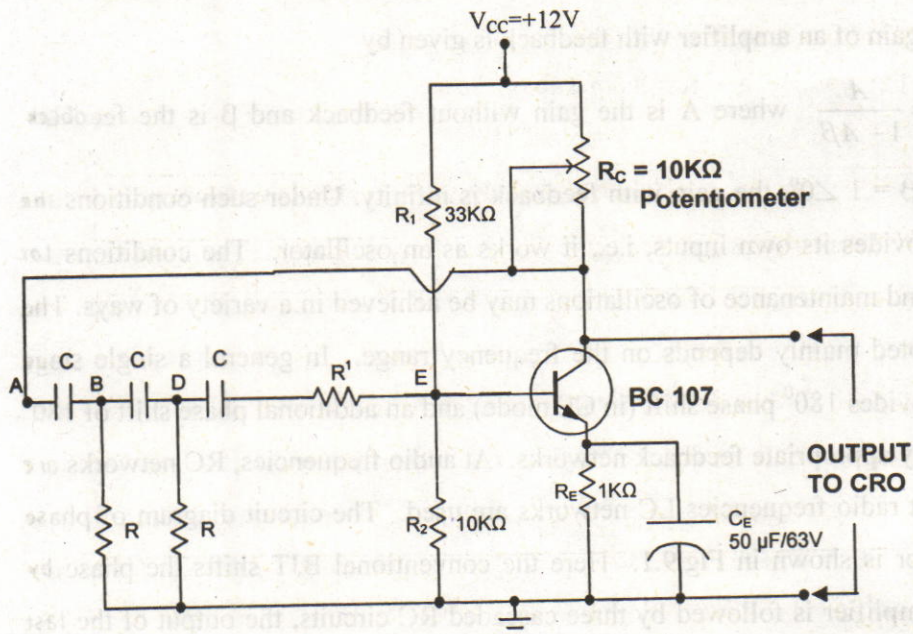

Fig.9.1
factor. If $A\beta = 1 \angle 0^\circ$, the gain with feedback is infinity. Under such conditions the amplifier provides its own inputs, i.e., it works as an oscillator. The conditions for production and maintenance of oscillations may be achieved in a variety of ways. The method adopted mainly depends on the frequency range. In general a single stage amplifier provides 180° phase shift (in CE mode) and an additional phase shift of 180° is provided by appropriate feedback networks. At audio frequencies, RC networks are used while at radio frequencies LC networks are used. The circuit diagram of phase shift oscillator is shown in Fig.9.1. Here the conventional BJT shifts the phase by 180° . The amplifier is followed by three cascaded RC circuits, the output of the last RC combination being fed back to the base. The R value used in the RC sections must be same. Likewise the Capacitors also must have same value. So that at a particular frequency each section contributes a phase shift of 60 degrees and the total phase shift introduced by 3 segments will be will be 180 degrees. At this frequency, the total phase shift is 360° or 0° leading between input and feedback signal and the system oscillates, provided the amplifier gain makes up for the attenuation due to the RC network. In the circuit you see only two Resistances and three capacitors. The input resistance $R_i \approx h_{ie}$ acts as the resistor for third segment. However the value of R_i may
2. Connect the circuit as shown in Fig.9.1 with the components evaluated as per the design procedure.
2. The circuit gives output immediately on switching on the power supply. If it doesn't work, check whether V_{BE} is about 0.6V DC and V_{CE} is about $V_{CC}/2$ (between 4 to 8V DC). If these two checks are O.K., the problem may be in feedback path. Detach feedback path by removing wire that comes from collector to point A, shown in Fig.9.1. The resulting circuit is an R-C Coupled amplifier. Inject a signal at A using a Sine wave generator at the expected oscillator frequency with amplitude of about 30mV . You will find amplified Sine wave as output. The output signal amplitude increases as you change injector position from A to B and D. If the output is as expected, the circuit is working as R-C coupled amplifier. (Otherwise follow the suggestions given for R-C coupled amplifier and see that it works). Restore the connection between A and the Collector. Now the oscillator normally works. If not, remove the feedback path again and see whether the input waveform and output waveform commence at the same point when they are superposed. If